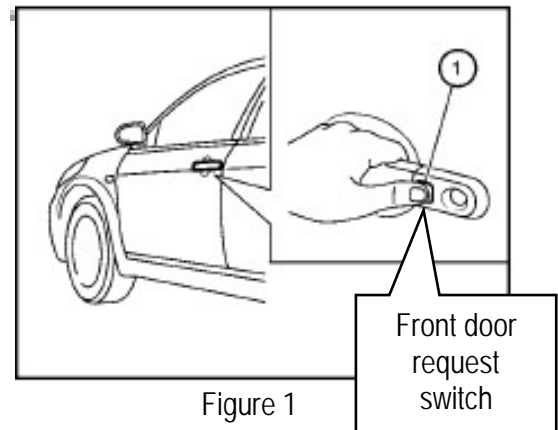

Figure 1
- With the Intelligent Key in range, the doors will lock and unlock when pressing either front door request switch (see Figure 1),